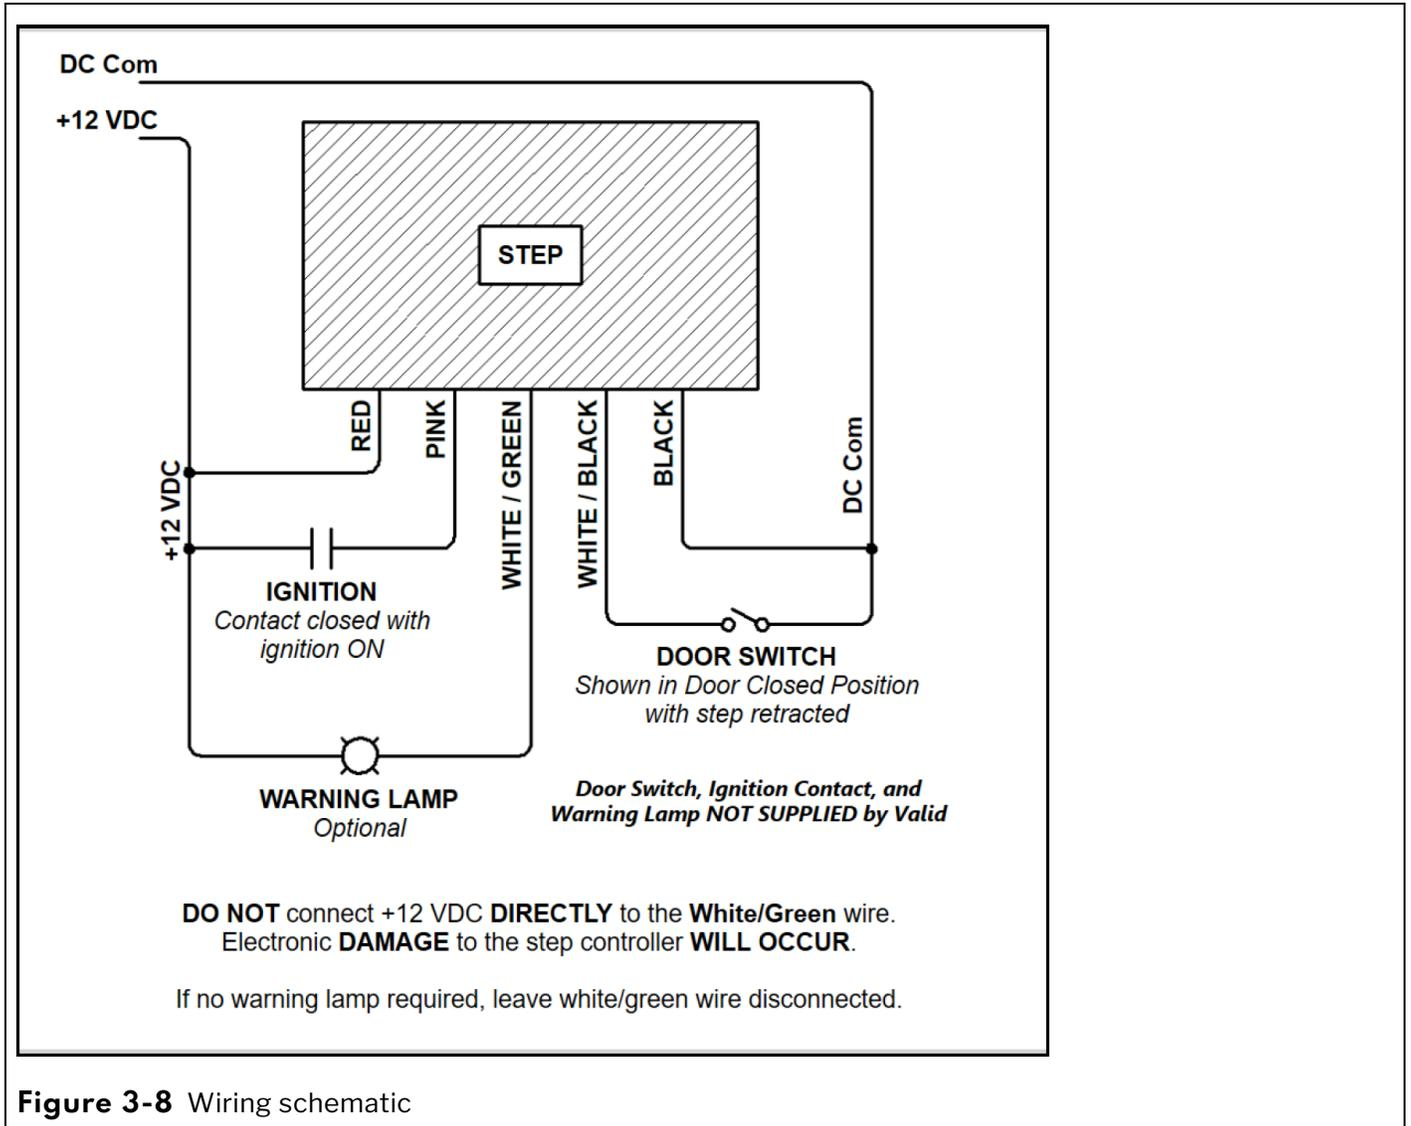

Figure 3-8 Wiring schematic
- Connect the wiring harness from the Valid Electric Step to the electrical system in the coach as shown in Figure 3-8 below.